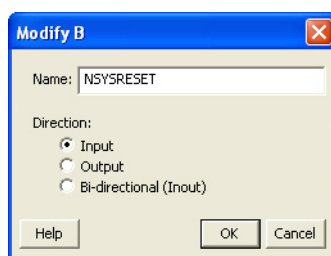

Figure 1-18 • Modify Port Name
15. Right-click **top-level port B** and choose **Modify Port** to change the name. Enter the new name as shown in Figure 1-18: